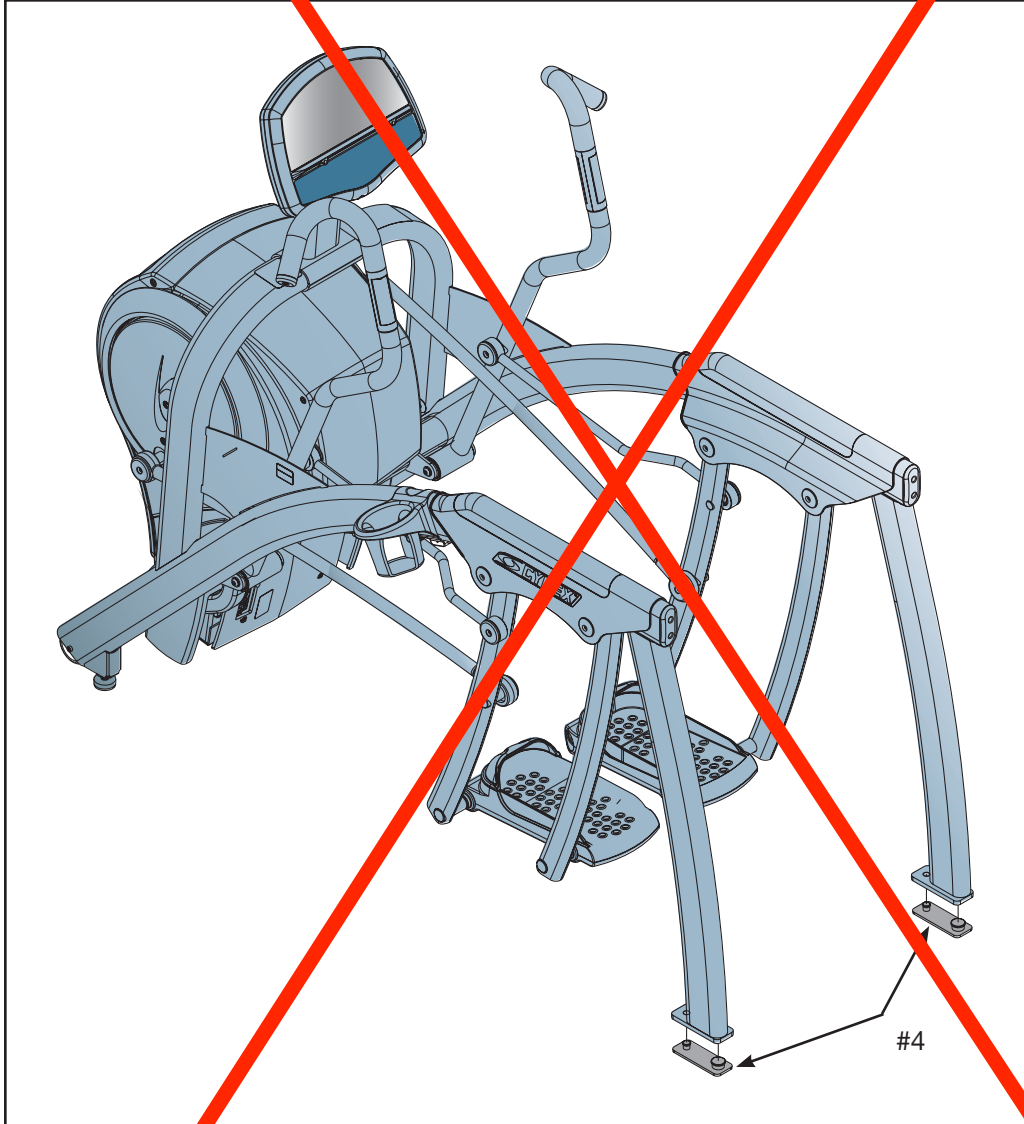

Figure 14
- A. Have one person lift the unit while a second person places a foot cover (#4) under each of the two back feet. See Figure 14.